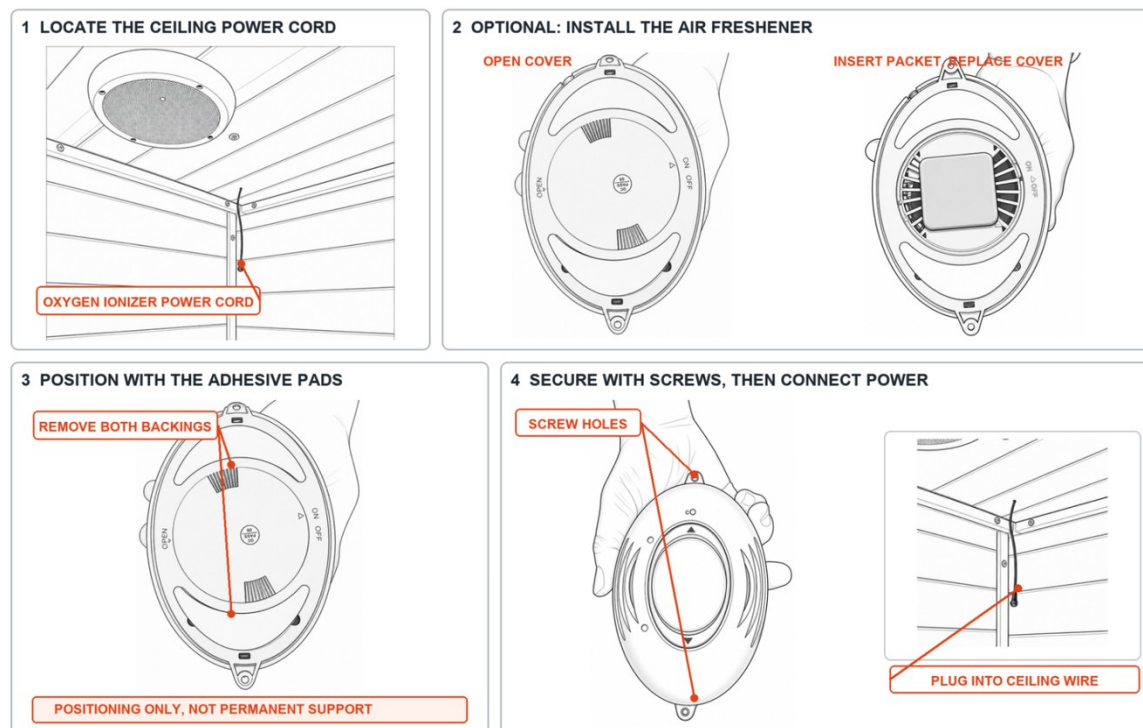

Figure 20. Ionizer installation: ceiling cord, air freshener packet, adhesive positioning, screws, then power.
- Remove the sticker backings on the rear of the ionizer and press it to the ceiling to mark its alignment (Figure 20). The stickers are for positioning only and will not permanently hold the unit.